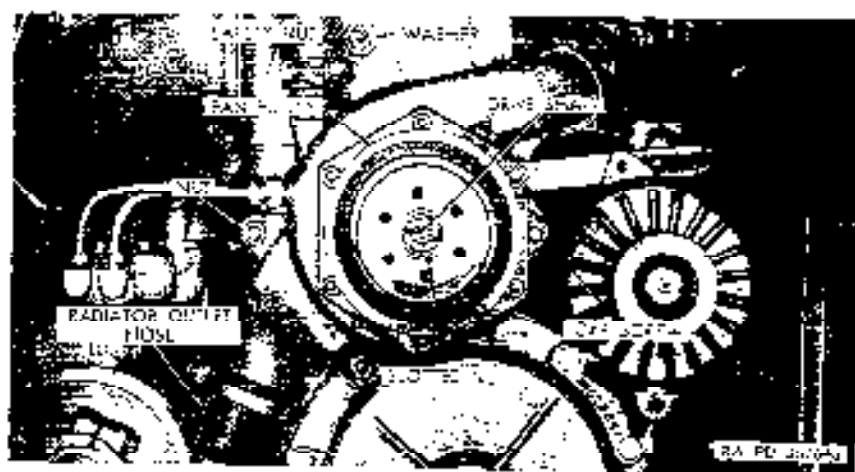

Figure 162. Front view of water pump with fan covered.
b. Radiator. The radiator (fig. 150), which is vertically mounted forward of the engine, consists of a fan-and-tube-type core with drain cock and a tank with pressure type filler cap (fig. 162), coolant level cock, and overflow tube. The bottom of the radiator is secured to the engine front mounting support (fig. 159) by two bolts and nuts, and the top of the radiator is secured in the vertical position by a stay rod (fig. 162) connected to the radiator and the front of the thermostat housing.
Caution: Do not pour cold water into cooling system when engine temperature is above 200° F. Also, cold water poured into cooling system, regardless of engine temperature, will close thermostats and not allow engine water jackets and passages to completely fill. Whenever filling system with cold water, always run engine until normal operating temperature is reached (thermostats open), then add water until coolant reaches coolant level mark (fig. 162).
- (1) *Drain system.* Run engine at fast idle until normal engine temperature (at least 165° F) is reached to stir up any loose rust, scale, et cetera. Stop engine. Remove radiator cap (fig. 162), open radiator drain cock (fig. 130) and crankcase drain cock (fig. 131), and allow cooling system to drain.
- (6) *Fill system.* Close radiator and crankcase drain cocks; then fill system to suit climatic conditions as follows: if above 32° F., almost fill the system with clean, fresh water (soft if possible) and add a corrosion inhibitor; then fill with water until coolant level is evident at level cock (fig. 162). If there is a possibility that climate below 32° F. will be encountered, fill system about one-third full, add antifreeze enough for the lowest expected temperature (table V, par. 328); then fill until coolant is evident at level cock. Install radiator cap, start engine, and run it at a fast idle until temperature gauge shows normal operating temperature; then stop engine and check coolant level, adding water as necessary.
- (7) *Rust prevention.* The cooling system must be free of rust and scale to maintain efficiency of the system. Use of inhibitors or rust preventives reduces or prevents corrosion of metals and prevents formation of scale. Inhibitors are not cleaners and do not remove rust or scale already formed. Treating the cooling system with an inhibitor consists of adding an inhibitor to the coolant. The inhibitor should be re-
- (1) Remove brush guard (par. 114c(2)).
- (2) Drain cooling system (par. 131d).
- (3) Loosen self locking nut at front end of radiator stay rod (fig. 162), and pull front end of stay rod upward and remove from slotted bracket on top of radiator.
- (6) Loosen two nuts and bolts securing radiator upper shield (fig. 162) to the left and right headlight support brackets, and pull upper shield forward and remove from brackets.
- (4) Slide rear end of radiator-outlet-hose elbow over end of water-pump water inlet, and tighten hose clamp.
- (5) Spread the two washers between the springs (fig. 162) on front end of radiator stay rod and slide rod into slot in bracket at top of radiator. Tighten self-locking nut on end of stay rod but do not tighten enough to completely compress springs.
- (6) Slide slotted ends of radiator upper shield (fig. 162) under head of bolt and lockwasher on left and right headlight support brackets, and tighten nuts and bolts.
- (7) Slide front end of radiator inlet hose (fig. 162) on radiator inlet, and tighten hose clamp.
- (8) Install brush guard (par. 134f(2)).
- (9) Fill cooling system (par. 134d(6)).
- (5) Remove nut (fig. 162) and lockwasher securing water pump to stud at right front end of crankcase, and remove cap screw securing water pump to bracket at front left end of crankcase.
- (4) Slide upper end of radiator outlet hose (fig. 162) on water pump inlet, and tighten hose clamp.
- (e) Loosen front hose clamp on radiator inlet hose (fig. 162) and tilt upper end of radiator forward.
- (c) Slide front end of radiator inlet hose (fig. 162) on radiator inlet, and tighten hose clamp.